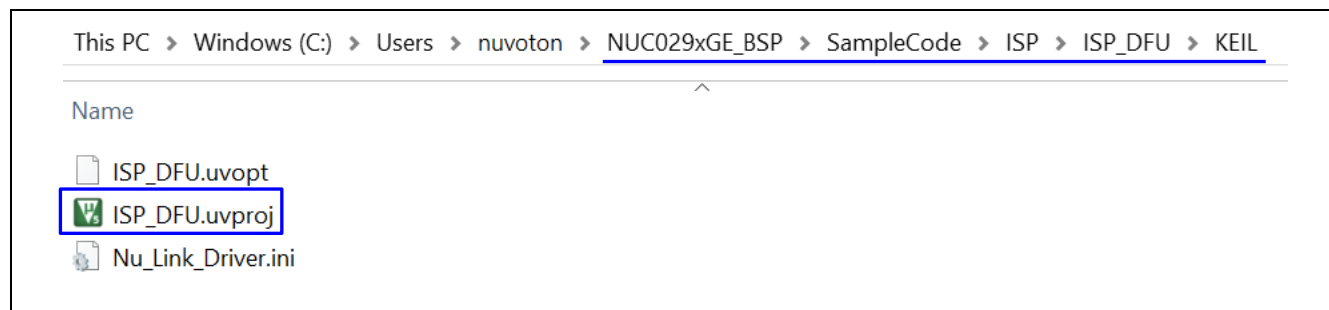

Figure 5-17 ISP_DFU Sample Code Keil Project Path
1. Double-click on ISP_DFU sample code Keil project to open it. The project path is shown in Figure 5-17.